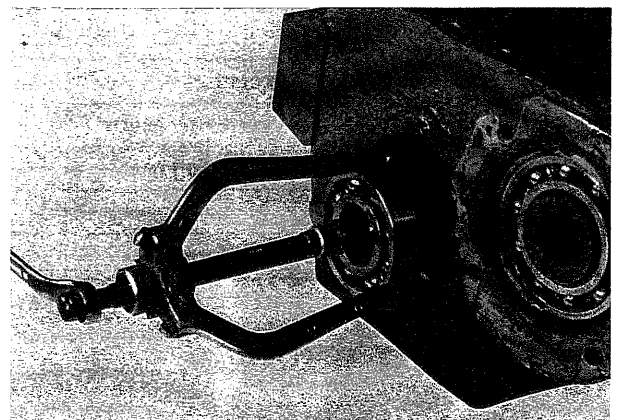

Fig. 47
- (6) Drive splined shaft toward hydraulic pump side until bearing and its retainer slip out of transmission case. Pull off bearing from shaft. (Fig. 47)